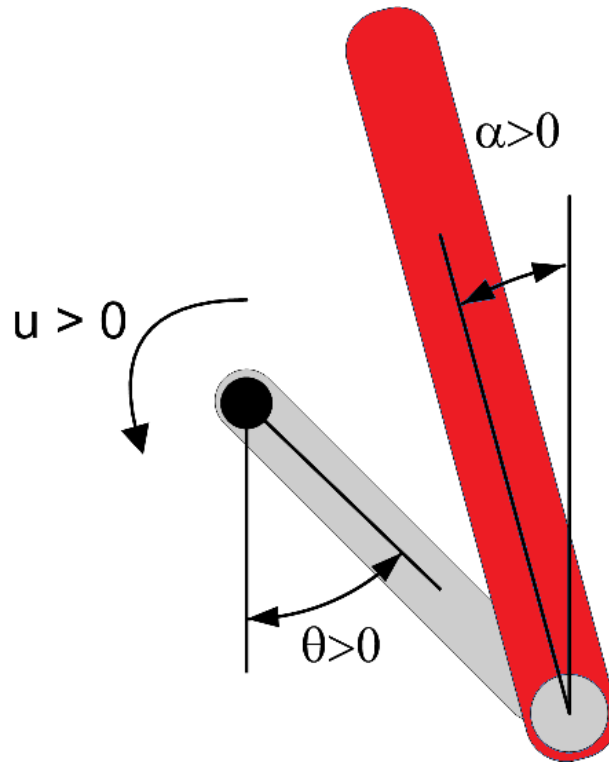

Figure 1.1: Free-body diagram of rotary pendulum
The rotary pendulum system, also known as the Furuta Pendulum, is a classic system often used to teach modeling and control in physics and engineering. The free-body diagram of a basic rotary pendulum is depicted in Figure 1.1.
8. Rotate the pendulum to the upright vertical position and ensure the angle is measured correctly and it follows the free-body diagram in Figure 1.1. Capture the response of the pendulum being raised to the inverted position. Explain what the bias and modulus functions do.